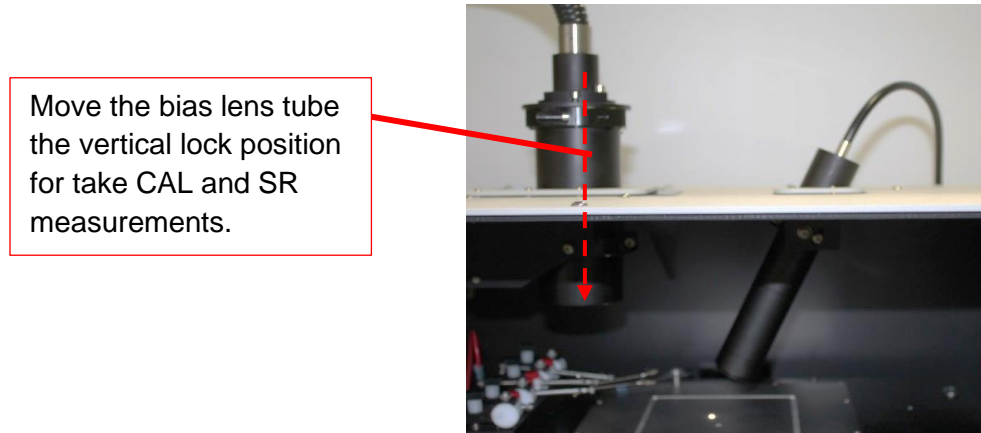

Figure 12: Bias lens tube in vertical lock position
2. Then move the bias lamp to the vertical position, see Figure 12.